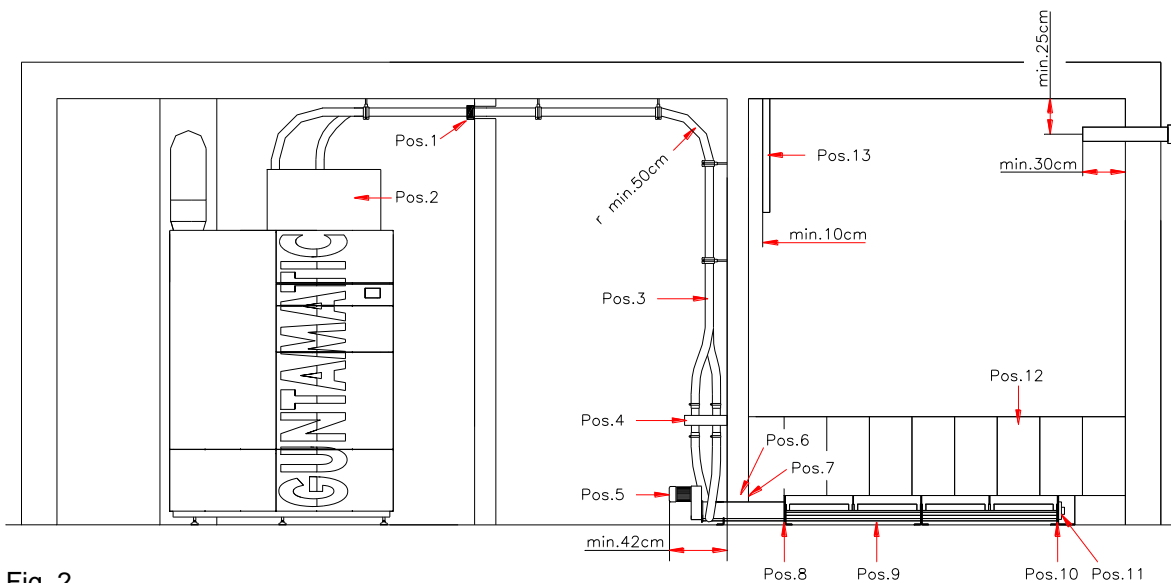

Fig. 2
1. Feed the drive unit (5, Fig. 2) of the fuel outfeed auger through the hole (W 330mm x H 250mm) in the storeroom wall.
2. Depending on the auger length, join the required auger sections complete with conveyor trough (9, Fig. 2) to the drive unit (5, Fig. 2) from the storeroom end.
Afterwards securely fix the auger trough flange joint using the M08 x 30 bolts supplied (8, Fig. 2) and locking washers. Make sure that the auger troughs are joined together so as to be perfectly flush on the inside. Screw the flange plate (10, Fig. 2) and bearing on the end of the outfeed auger (if not pre-fitted).
3. Unscrew the grub screws (11, Fig. 2) on the bearing and attempt to push the auger towards the drive unit as far as it will go. Then re-tighten the grub screws.
5. Position the assembled outfeed auger so that the drive unit extends at least 42cm (see Fig. 2) out of the storeroom wall.
7. Fill the gap (6, Fig. 2) in the wall around the conveyor with mineral wool. Cover the hole on both sides of the wall with the masking plates supplied (7, Fig. 2), fitting them so that they do not touch the conveyor.
1. The vacuum extraction and air return pipes (3, Fig. 2) between the heater module (2) and the hose changeover unit (4) should be routed so that the bends are as gradual as possible (minimum curvature radius 50cm) and connected to the hose changeover unit. There should also be a vacuum extraction and air return pipe – similarly routed with gradual bends – running from each outfeed auger to the hose changeover unit and connected to it.
2. The vacuum and air return hoses as shown in Fig. 2 must be secured to the cyclonic separator (2), the hose changeover unit (4) and the drive unit (5) and made air-tight using the pipe clips supplied.